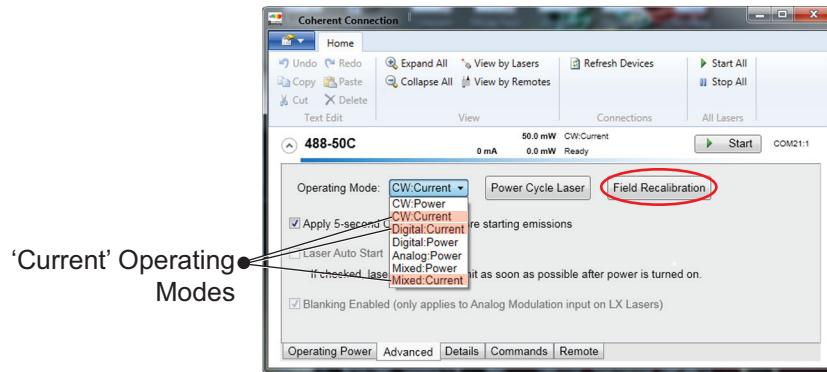

Figure 6-28. Modulation Mode using CURRENT
- This feature must be used **only for** OBIS LX modulation modes with the *current* drive, highlighted in Figure 6-28: